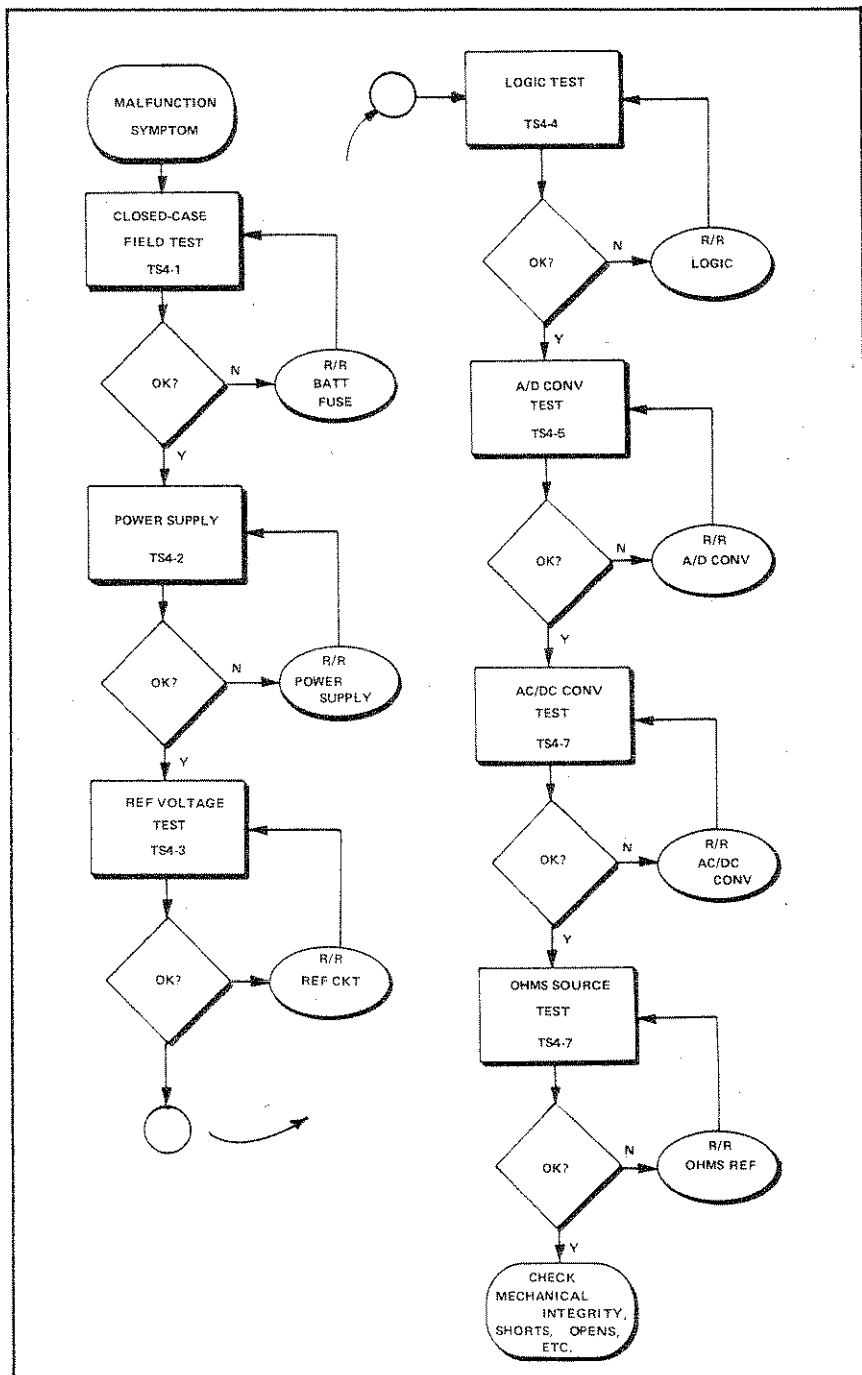
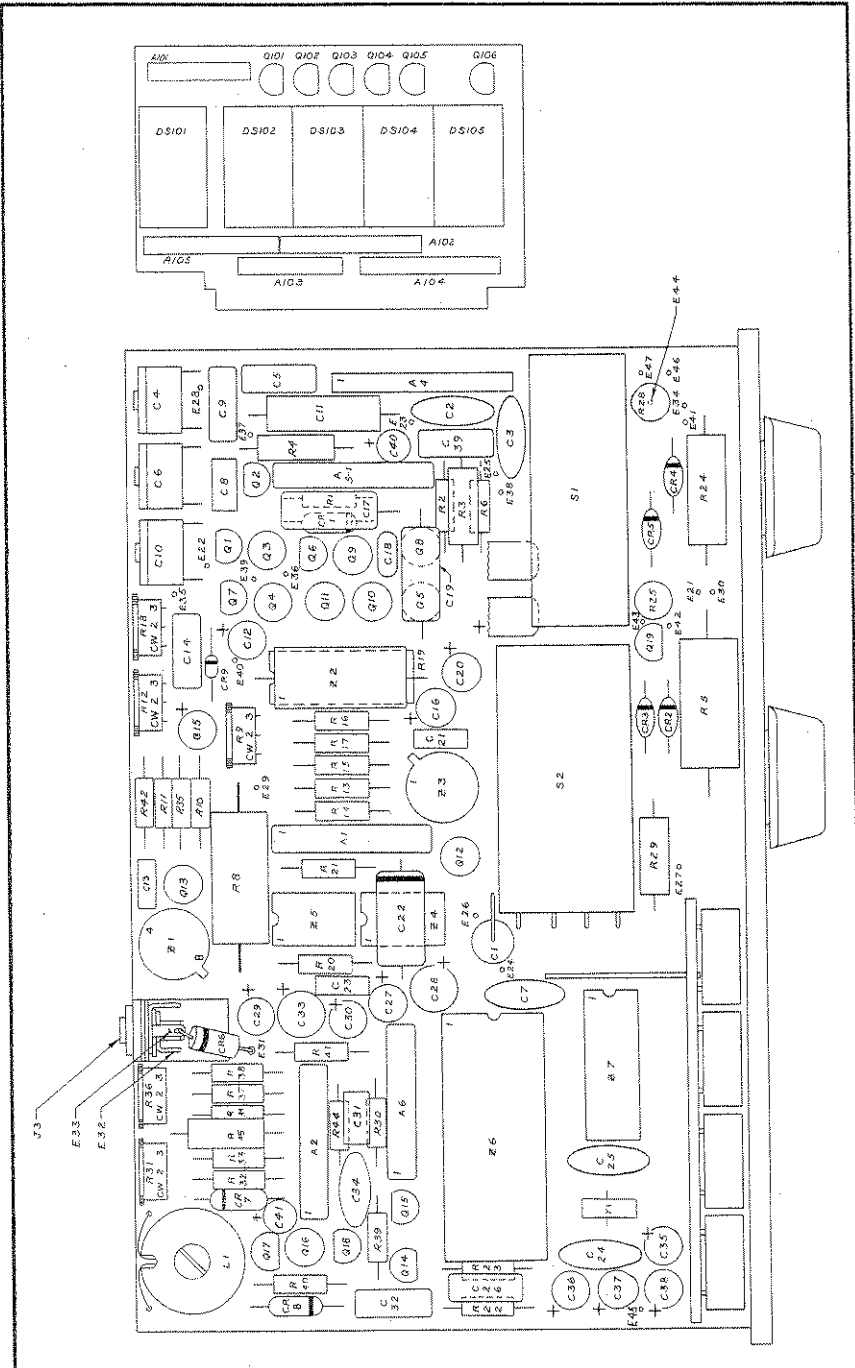
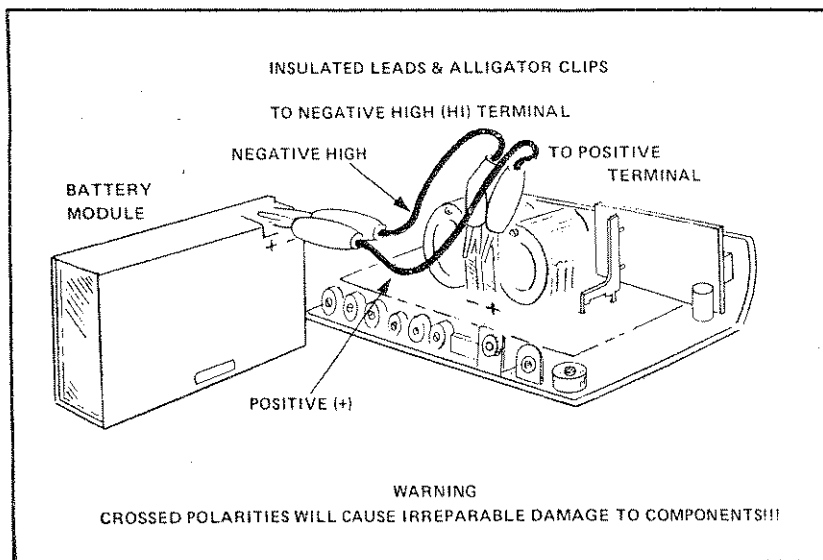

Fig. 4-1. Overall Test Strategy
Fig. 4-2. Model 248 Main Assembly
Fig. 4-4. Connecting Battery Module to Assembly
Should the meter performance indicate a possible need for repair, a well-defined strategy should be used to isolate the cause of trouble. This is illustrated in Figure 4-1. It indicates a sequence of steps in terms of standard symbols and defines a program of actions based on a philosophy of positive maintenance. The positive approach isolates the faulty sections by verifying proper operation of the remaining instrument sections.
The test sequences identified in the chart of Figure 4-1 are described in step-by-step detail in the paragraphs that follow. In performing the tests detailed in these paragraphs, the maintenance technician is directed to make measurements at designated test points which have been placed at significant portions in the circuit. The special test points are identified by E-reference numbers, and their locations on the printed circuit board are shown in Figure 4.2. Other test points designated in the test procedure paragraphs may be pin terminals of circuit components, and technicians should refer to component data sheets for the pin terminal locations as well as to Figure 4-2. Use caution in attaching test leads to avoid accidental shorting of adjacent components. The use of EZ Mini Hook[®], or equivalent is suggested to aid in making good connections.
If the multimeter does not perform correctly after the tests of TS4-1 are satisfactorily completed, then it is likely that repairs to an internal assembly are required. The sequence of such tests is indicated in the overall strategy of Figure 4-1, and is identified by a TS number for further reference. Each test sequence paragraph includes the designation of test points, the indicators of proper performance, the circuits that are checked when proper performance is observed, and the circuits that should be examined in greater detail when indications of improper performance are recorded. Refer to the fold-out schematic in the back of this manual for complete circuit details, and to Chapter 6 for replacement parts identification.
- (3.) Carefully withdraw the meter assembly from the case through the front. Place on insulating surface. Major assemblies are pointed out in Figure 4-2.
Power for the multimeter may be obtained by connections to the battery pack with jumpers as shown in Figure 4-4. Be sure that a fully charged battery pack is available for these trouble-shooting test sequences. The battery charger may be connected after the battery has been connected to the circuit.
Be sure to maintain the proper polarity relationships as shown in Figure 4-4. Improper polarity connection, even if momentary, may result in major component damage. The battery module should be connected before connecting the charger input because the battery acts as a necessary filter for the charger circuit.
b. Check dc voltages at points and in sequence shown in the tabular presentation below. Measurements should be made between the indicated point and case reference. The latter is easily available at the metal support bracket securing the display assembly to the main assembly PC board. See Figure 4-2 for designated test point location and Figure 4-4 for the bracket location.